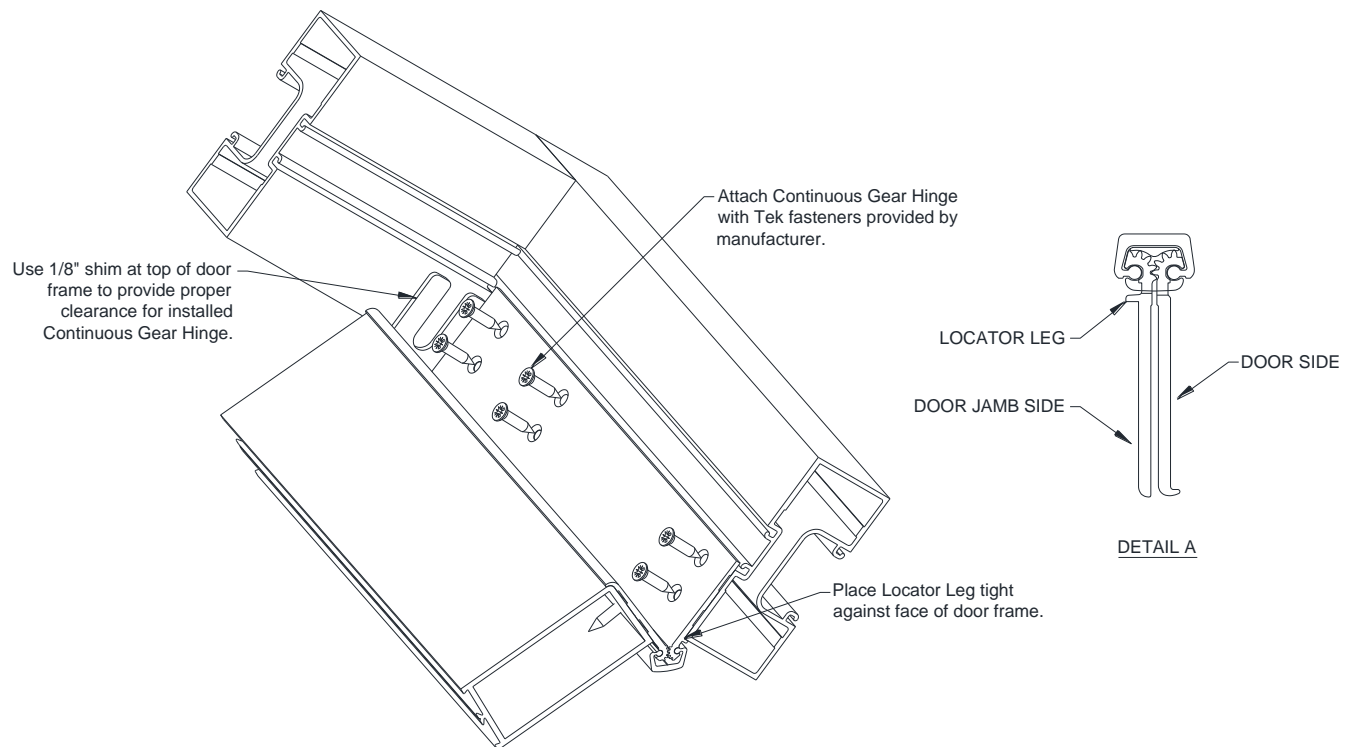

Figure 39: Hanging Door with Continuous Gear Hinge
- 13.2 Align Continuous Gear Hinge to Door Jamb by using the Locator Leg as a guide. Locator Leg is identified in *Figure 39, Detail A*.